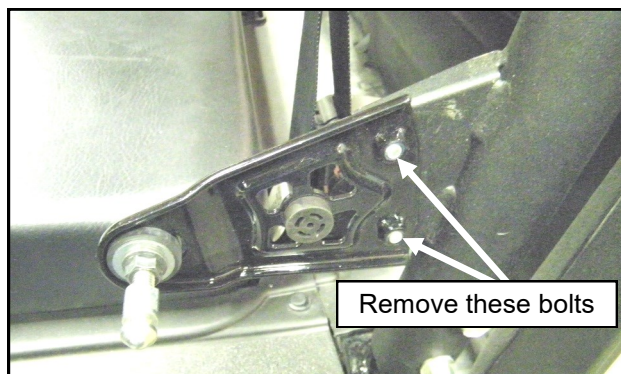

Fig. 1.2 Factory door latches (4)
**1.2** Per figure 1.2, remove factory door latches for front and rear doors.